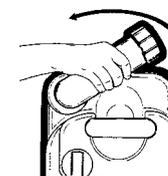

Fig. 3
3. Position tank vertically and swivel pour out spout upwards (fig. 3).